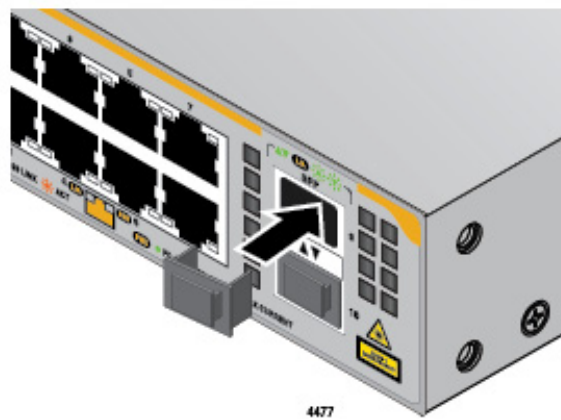

Figure 28. Install SFP Slot Dust Cover
5. Install the dust plug for the SFP slot. Refer to Figure 28.